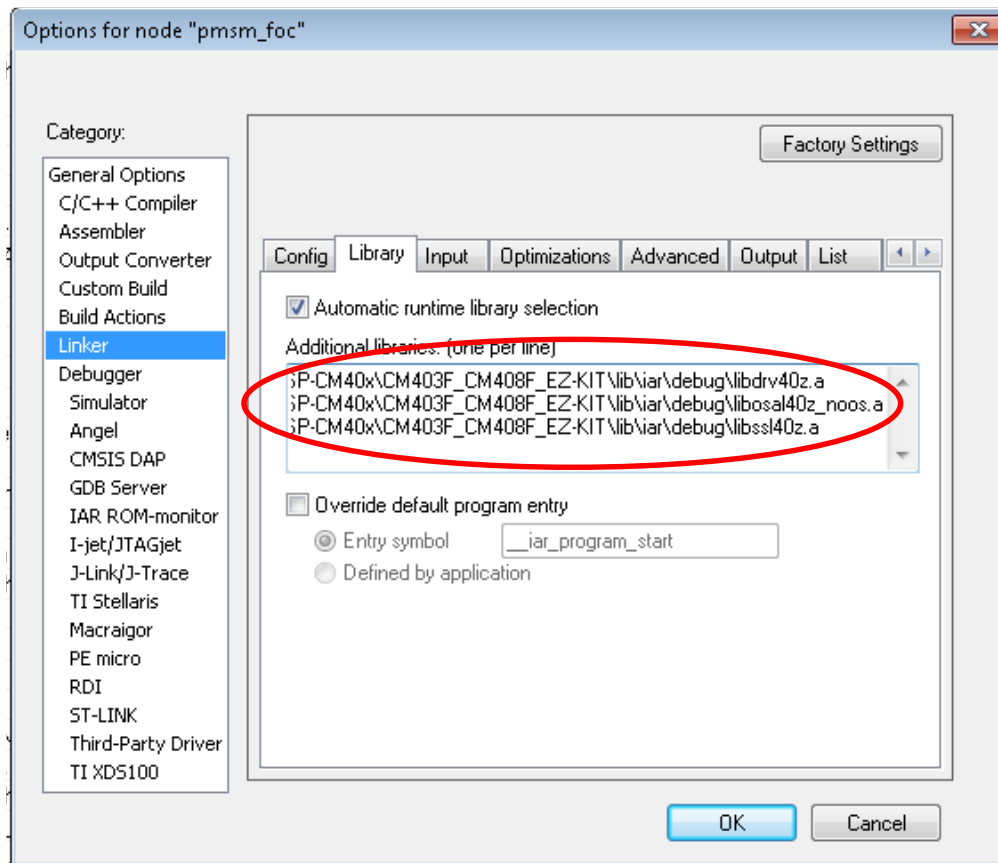

Figure 9 EWB Linker Libraries
4. Ensure that the rebuilt library files are listed as shown in Figure 9.